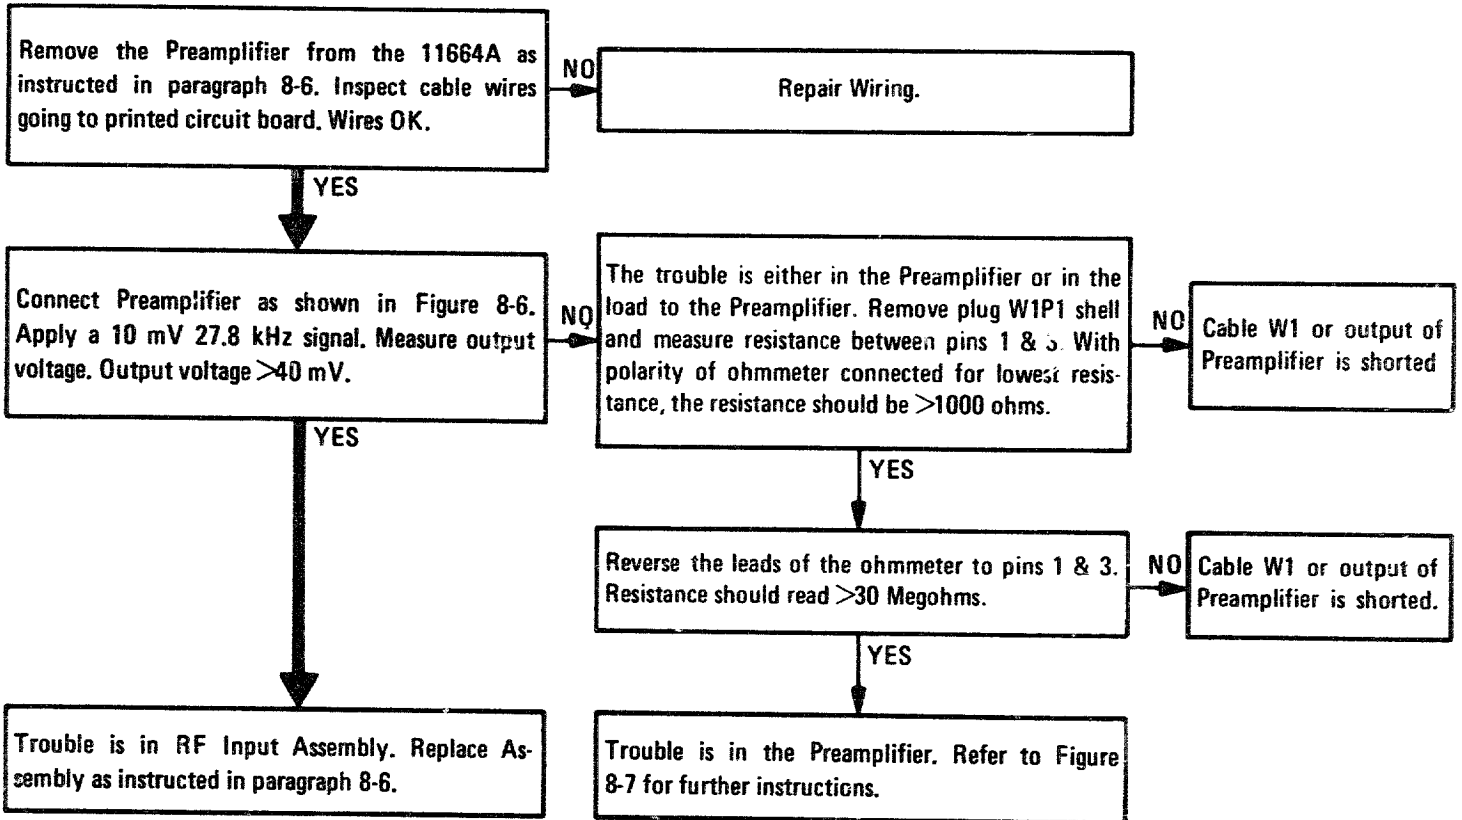

Figure 8-5. Isolating Trouble to A2 RF Input Assembly or A1 Preamplicifier
2. If the Detector is indeed the culprit, follow the procedures in Figure 8-5 to isolate the trouble to either the RF Assembly or the Preamplifier printed circuit board.